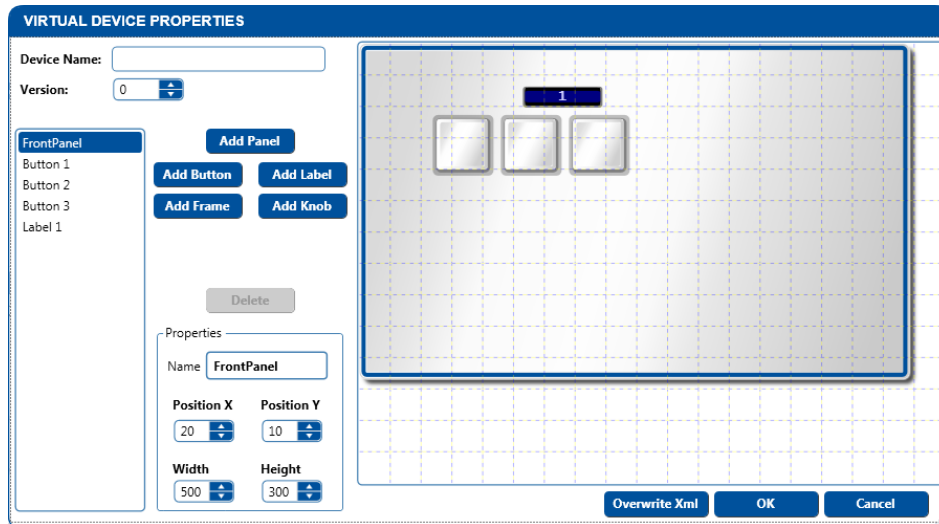

Figure 153: Editing the Virtual Device (Step 1)
1. In the **VIRTUAL DEVICE PROPERTIES** window, delete buttons 4 to 12, labels 2 and 3, as illustrated in Figure 153: